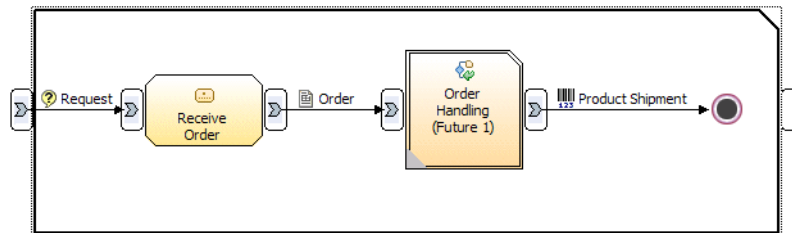

Figure 7-24 Overall Order (Future 1) process
- ▶ The finished process is shown in Figure 7-24.